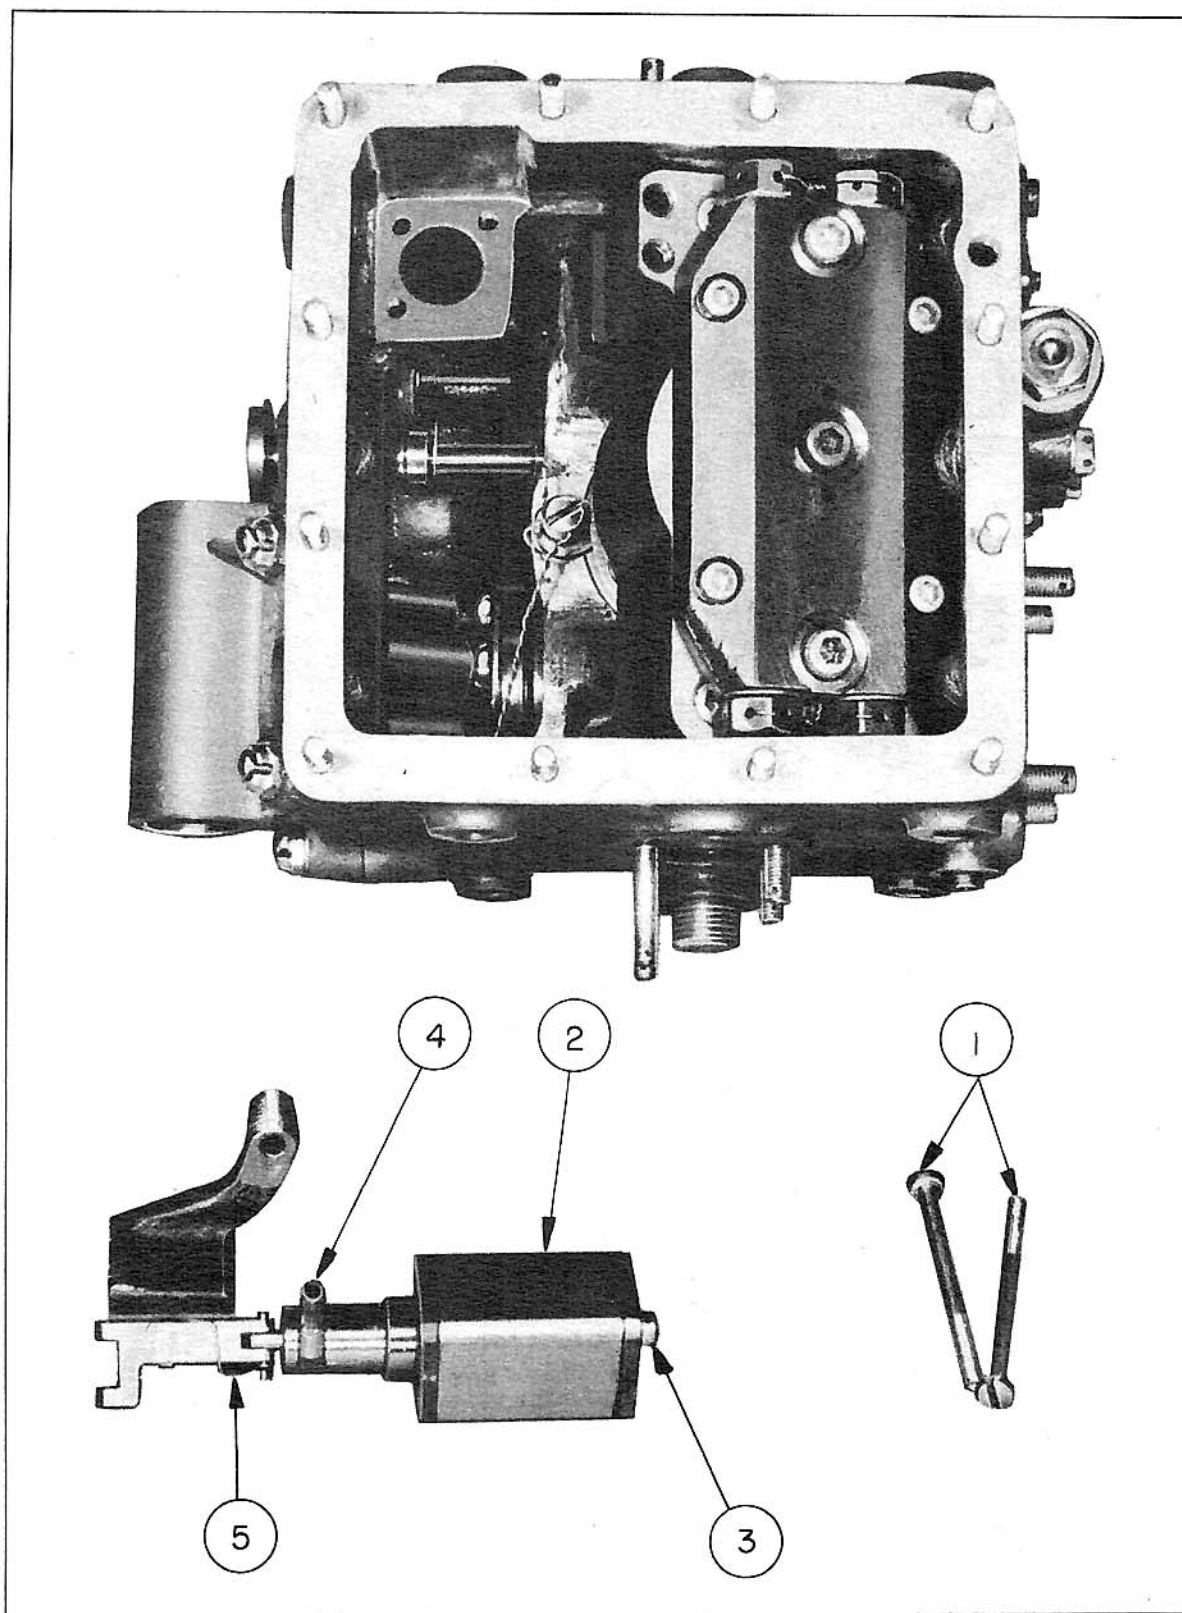

FIGURE 24
4. Control Cylinder (Fig. 24)
5. Control Cylinder (See Figure 24.) - a. Remove the two screws (1) which hold the Control Cylinder (2) to the housing. (There are 4 screws in the cover, but the other two screws (3) serve only to fasten the cover to the Control Cylinder). The Control Cylinder may now be lifted from the housing.
9. Control Cylinder (Fig. 24)
10. Control Cylinder (See Figure 24.) - a. Connect the follow valve link (4) and the follow valve link pin to the control cylinder (2) . Slip the pin locking spring (5) over the follow valve link pin to retain it in position. (A slotted "V" shaped screw-driver will facilitate placing the locking spring in place.) Place the control cylinder (2) into place in the housing, matching the 1/8" hole in the adapter with the 1/8" hole in the mounting seat of the housing. Insert the 2 screws (1) and safety wire them to the two screws (3)